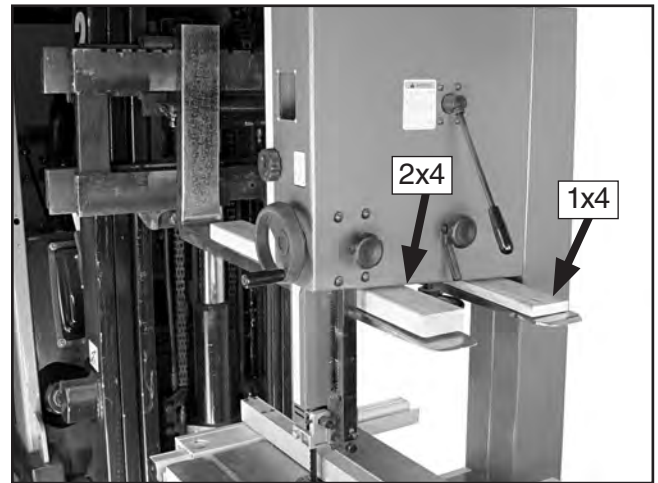

Figure 8. Example of lifting bandsaw with forklift using wood shims.
2. Carefully place forklift forks under head and install a 1x4 shim between the head and the left fork, and a 2x4 shim between the head and right fork so bandsaw is level, as shown in **Figure 8**.